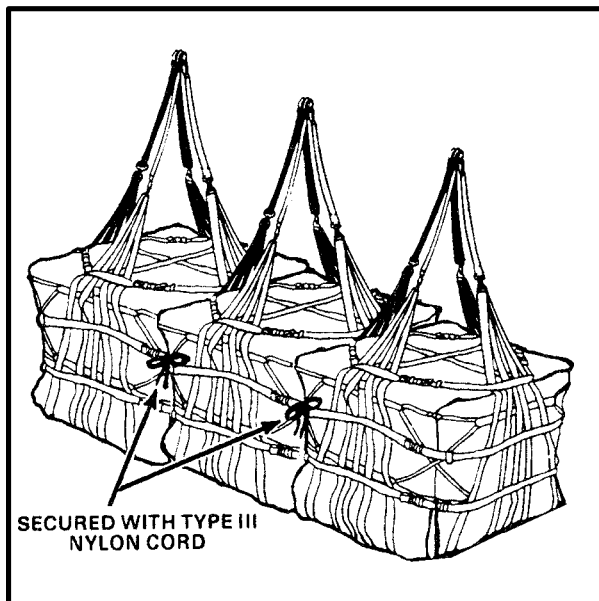

Figure 8-7. Load of Three A-22 Cargo Bags
**i. Preparing the Load for Pickup.** Prepare the load for pickup by looping the chain end of a sling leg through the medium clevis and inserting link number 3 in sling grabhook. Several A-22 cargo bags can be carried at the same time (Figure 8-7). Secure the bags together with a temporary tie of Type III nylon cord around the upper lateral straps of each container at the inside corner where they meet. Attach slings or sling legs to each container through the medium clevis. Adjust the sling leg lengths so that all the bags are carried at the same level. Usually link number 3 is placed in the grabhook. This will make pickup and release easier since all loads will leave the ground at the same time. To derig the A-22 cargo bag, remove the sling legs and clevis assemblies. Untie or cut the taped or tied strings. Unfasten the web straps and spread out the cover.